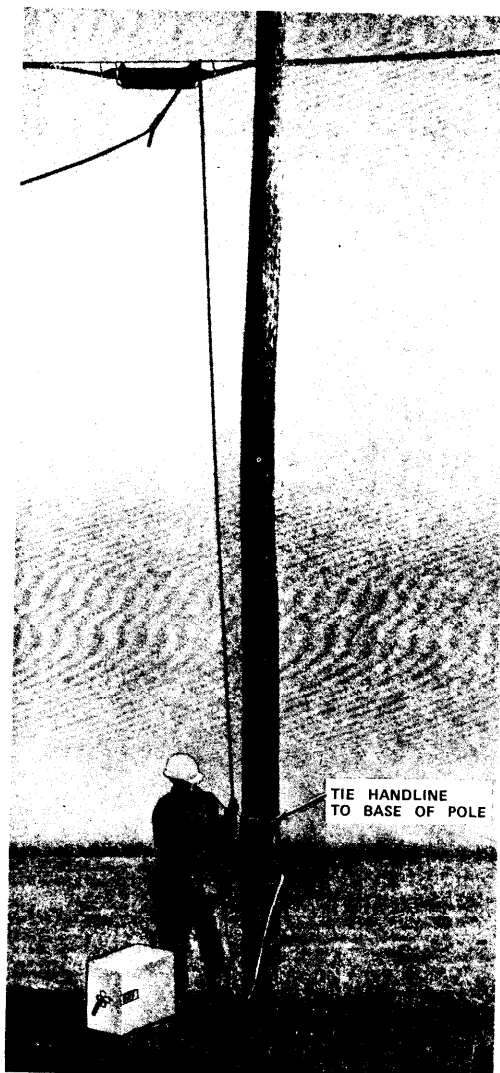

Fig. 9 - Drop Wire Raised to Approximate Height - Dispenser Method
- (i) After the drop wire has been raised to the approximate required height, secure the handline to the base of the pole (Fig. 9) or to the lower rungs of the ladder.